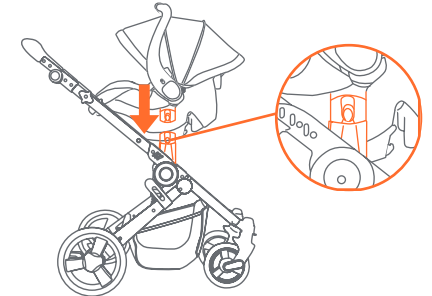

Fig. 17
17) • Attach the car seat by lining up the seat anchors on the side of the car seat with the anchors on the stroller frame and push them together until they lock securely (Fig. 17).